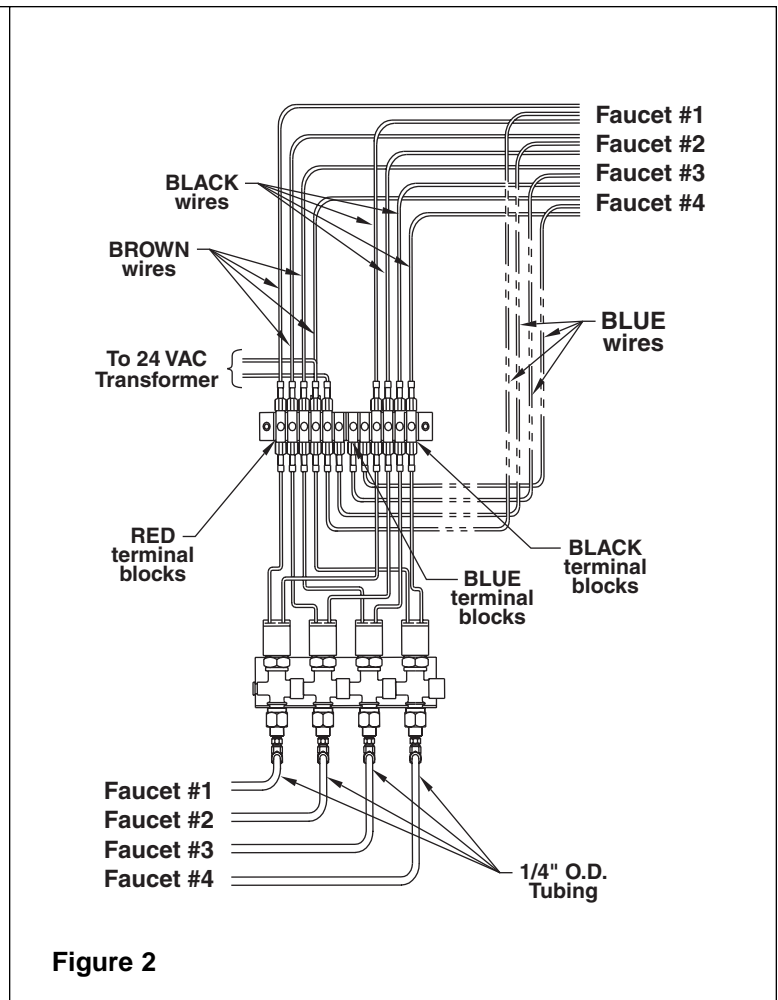

Figure 2
*NOTE: Refer to Figure 2 for the 900 Series Futura faucet when replacing tubing and wiring connections. Figure 2 illustrates components that are pre-wired and provided with the 4TMAR cabinet. Additional wire and tubing supplied by installer.*
**IMPORTANT: When making electrical connections, ensure each faucet is wired to the terminal block connected to the matching solenoid valve as shown in Figure 2.**
3. For Bradley 900 Series Futura faucets, make electrical connections from the 24 VAC transformer and each faucet to the terminal block following the wiring diagram in Figure 2.